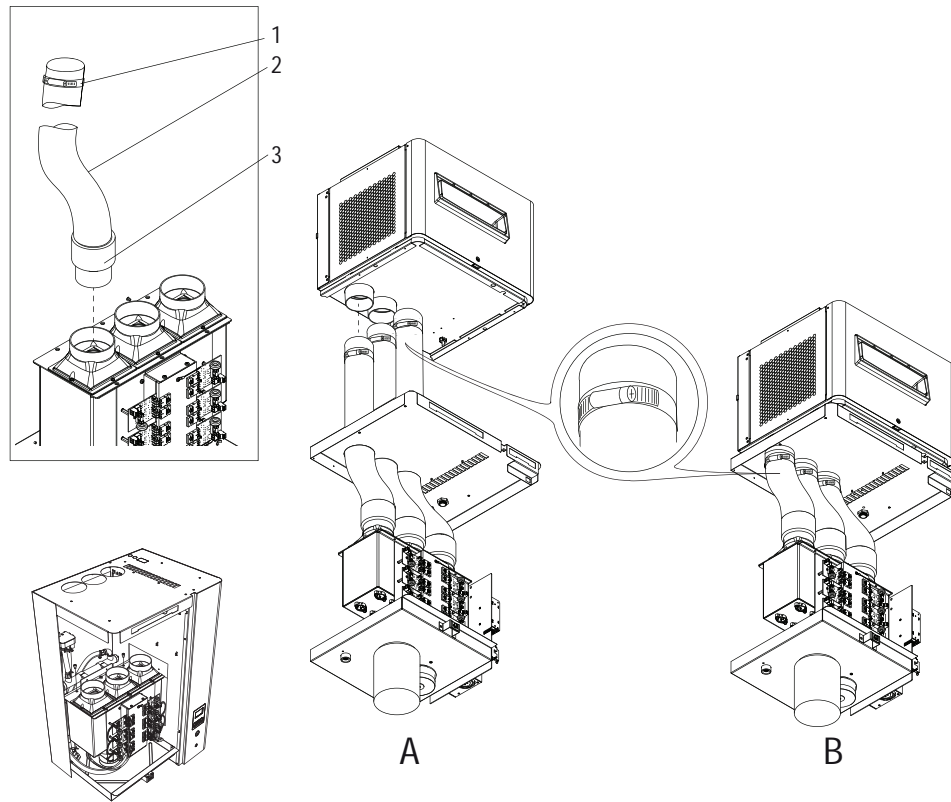

Figure 11 - Flexible Tubes. (A) Remote-Mount Installation. (B) Direct-Mount Installation.
3. Route the 'connector' end (item 3) of the flexible tube to the top of the water reservoir. Secure the connection by gently inserting the connector and tube into the reservoir, as seen in Figure 11 below.